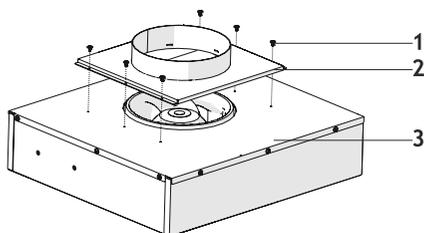

Fig. 21
6. **➔ ■** To mount the motor box under the cabinet the air suction plate must be removed. Remove the air suction plate by removing 6 connection screws (Fig. 21).